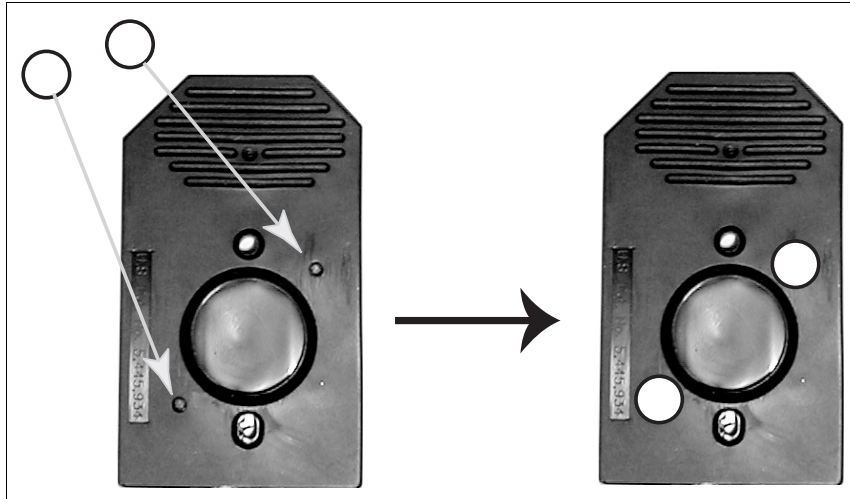

Figure 7.1 Applying Tough-Spots® to the probe array cartridge
- Carefully apply one Tough-Spots to each of the two septa. Press to ensure that the spots remain flat. If the Tough-Spots do not apply smoothly, that is, if you observe bumps, bubbles, tears, or curled edges, do not attempt to smooth out the spot. Remove the spot and apply a new spot. See Figure 7.1.